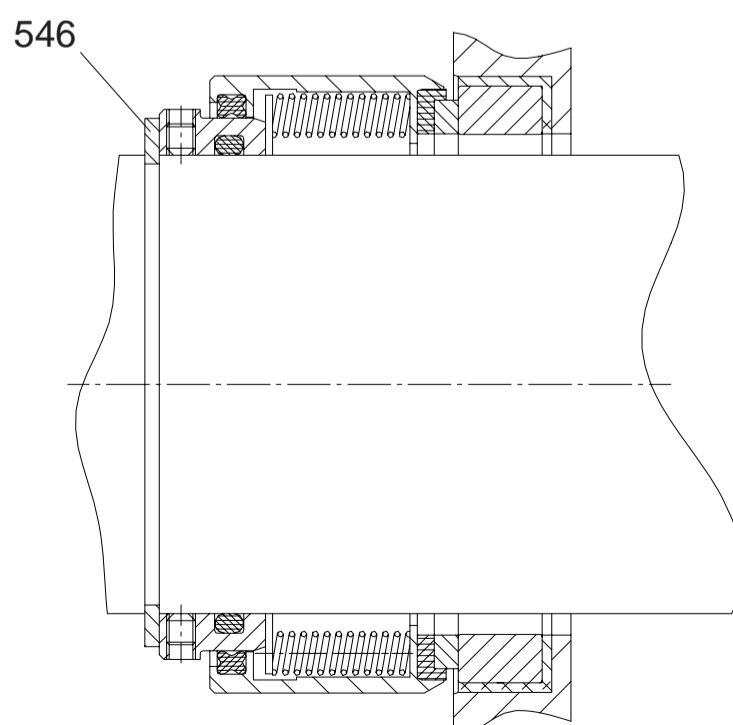

Fig. 18
**d) Stainless-steel-shroud seal - type "X" (Fig. 18)**